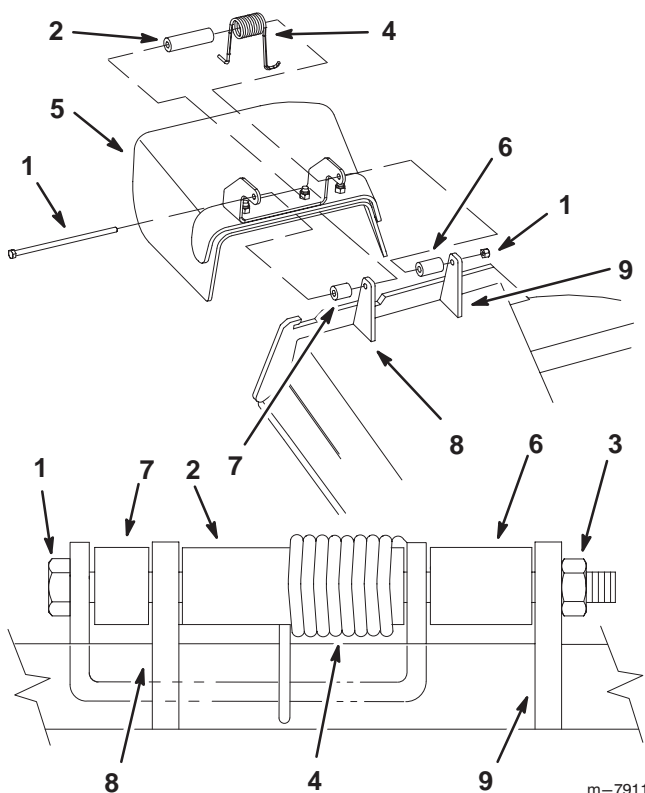

Figure 2
1. Install the new bolt through the grass deflector and through the small spacer (3/4 inch) (Fig. 2).
2. Install the bolt through the front pivot post on the mower deck and install the large spacer (4-7/8 inch) (Fig. 2).
3. Install the spring onto the large spacer (Fig. 2).
5. Install the bolt through the deflector and the medium spacer (1-3/8 inch) (Fig. 2).
6. Install the bolt through the rear pivot post on the mower deck and secure it with a locknut (5/16 inch) (Fig. 2).